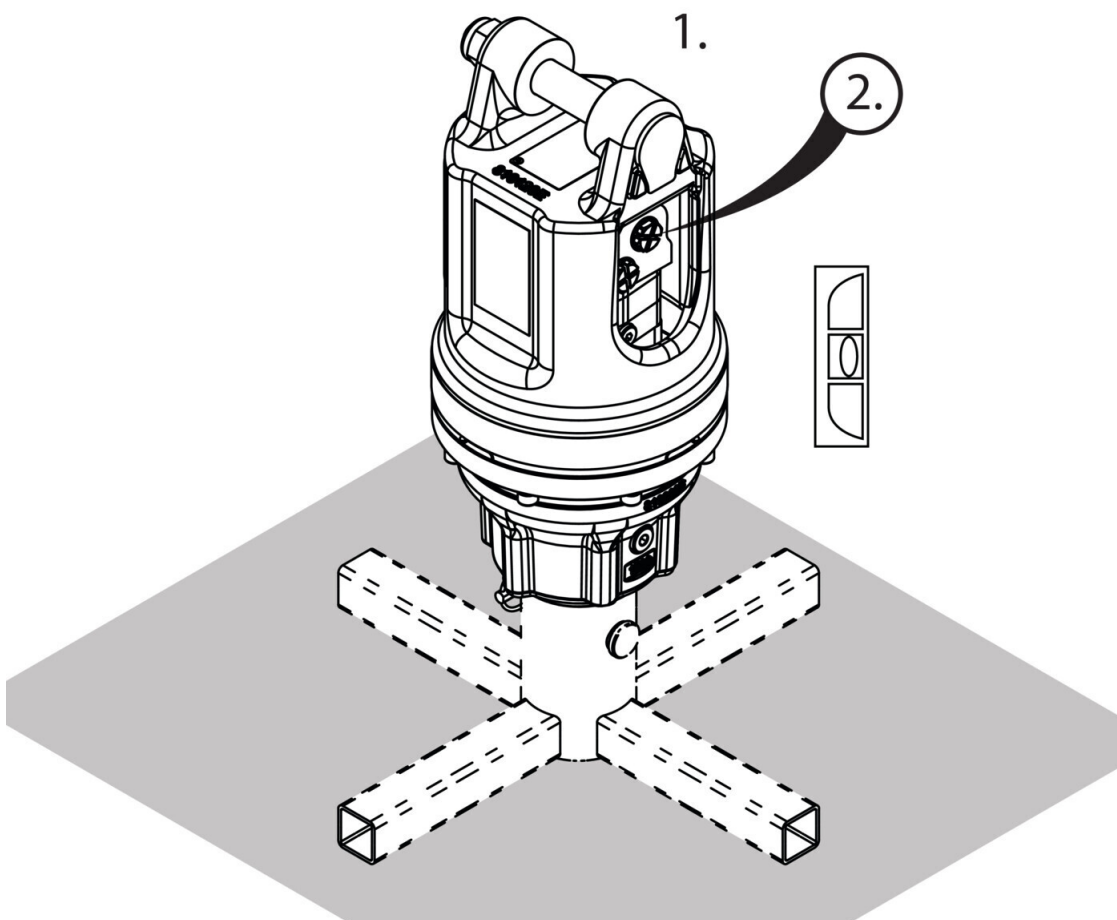

Fig. 69
Remove hydraulic hoses and associated components. Install hydraulic bungs, item 2 **Fig.69**.